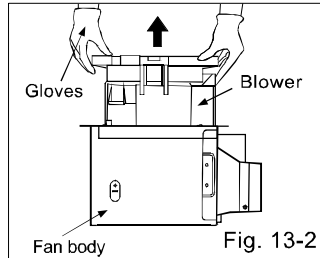

Fig. 13-2
- Remove blower section. (Fig. 13-2)